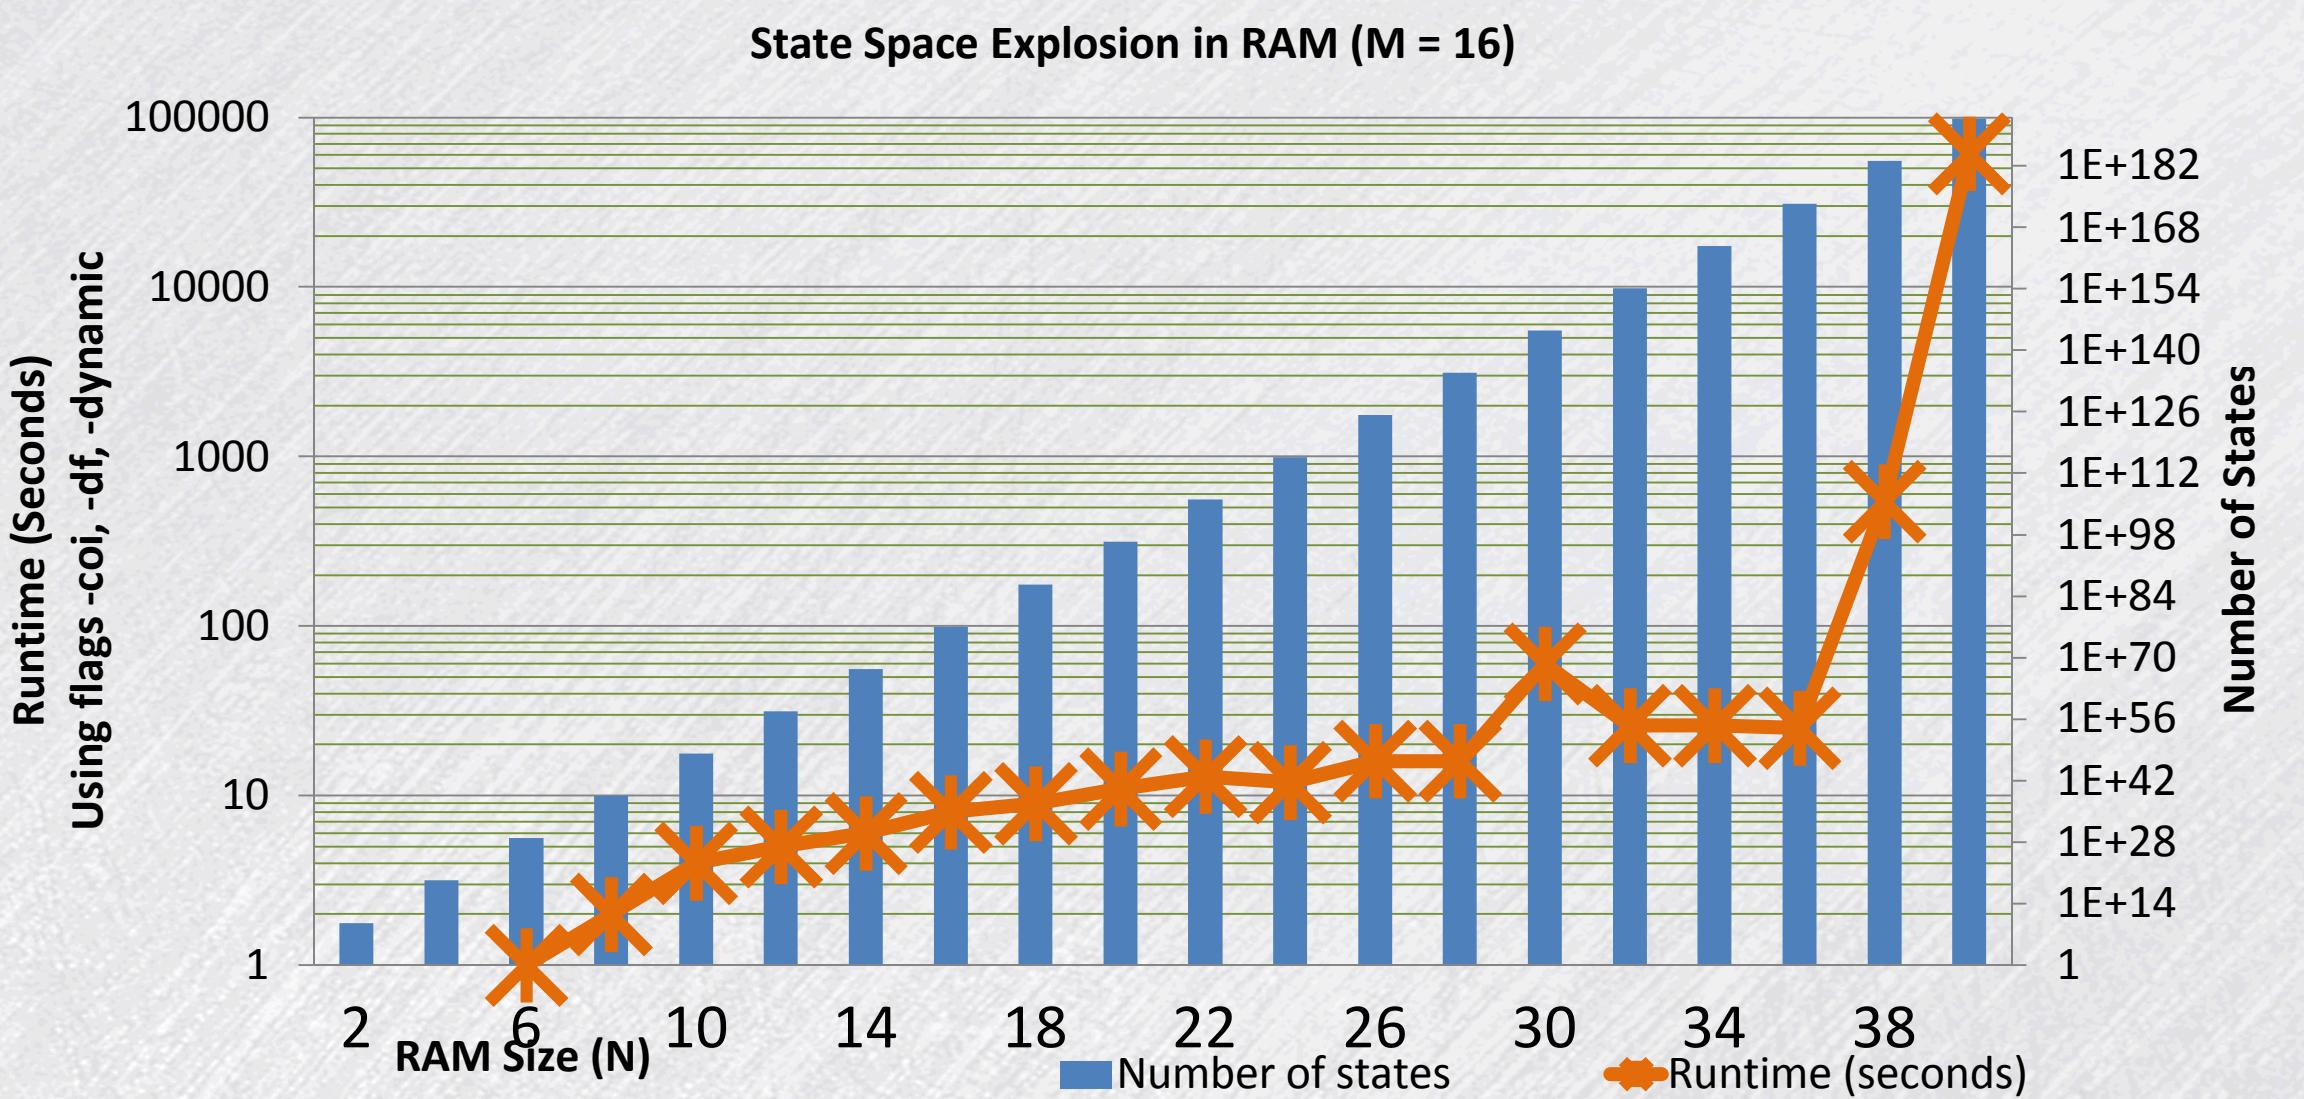

Figure 3. State space explosion for RAM with fixed word size (M) and variable memory size (N).
- Small sized RAM experienced state explosion problem during model checking with NuSMV (Figure 3)